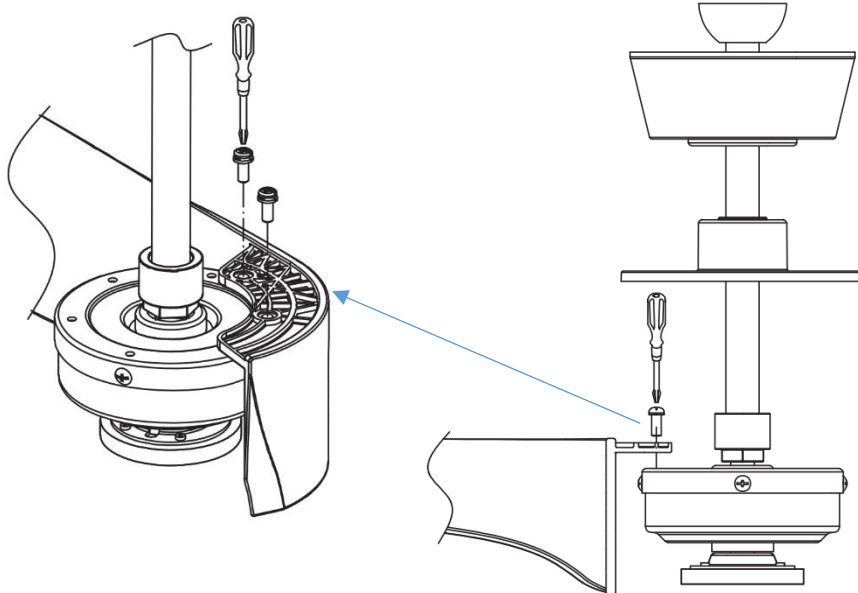

Fig. 4a
1. Install the fan blade to the fan assembly by tightening the 2 screws. (Fig. 4a)